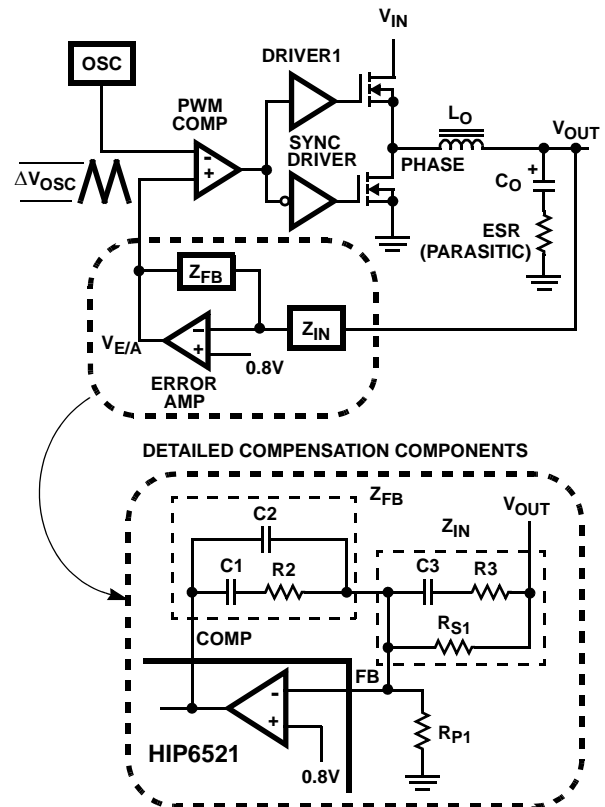

FIGURE 6. VOLTAGE-MODE BUCK CONVERTER COMPENSATION DESIGN
Figure 6 highlights the voltage-mode control loop for a synchronous-rectified buck converter. The output voltage ( $V_{OUT}$ ) is regulated to the Reference voltage level, 0.8V. The error amplifier (Error Amp) output ( $V_{E/A}$ ) is compared with the oscillator (OSC) triangular wave to provide a pulse-width modulated (PWM) wave with an amplitude of  $V_{IN}$  at the PHASE node. The PWM wave is smoothed by the output filter ( $L_O$  and  $C_O$ ).
The compensation network consists of the error amplifier (internal to the HIP6521) and the impedance networks  $Z_{IN}$  and  $Z_{FB}$ . The goal of the compensation network is to provide a closed loop transfer function with high 0dB crossing frequency ( $f_{0dB}$ ) and adequate phase margin. Phase margin is the difference between the closed loop phase at  $f_{0dB}$  and 180 degrees. The equations below relate the compensation network's poles, zeros and gain to the components ( $R_1$ ,  $R_2$ ,  $R_3$ ,  $C_1$ ,  $C_2$ , and  $C_3$ ) in Figure 6. Use these guidelines for locating the poles and zeros of the compensation network:
Figure 7 shows an asymptotic plot of the DC-DC converter's gain vs. frequency. The actual Modulator Gain has a high gain peak dependent on the quality factor (Q) of the output filter, which is not shown in Figure 6. Using the above guidelines should yield a Compensation Gain similar to the curve plotted. The open loop error amplifier gain bounds the compensation gain. Check the compensation gain at  $F_{P2}$  with the capabilities of the error amplifier. The Closed Loop Gain is constructed on the log-log graph of Figure 10 by adding the Modulator Gain (in dB) to the Compensation Gain (in dB). This is equivalent to multiplying the modulator transfer function to the compensation transfer function and plotting the gain.